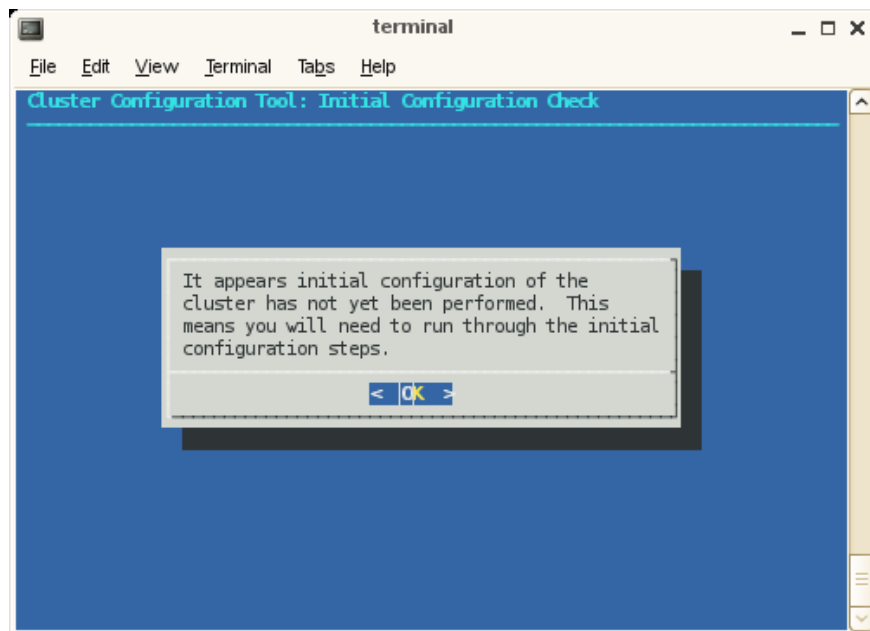

Figure 2-10 Cluster Configuration Tool: Initial Configuration Check Screen
2. The **Cluster Configuration Tool: Initial Configuration Check** screen appears, as shown in Figure 2-10 on page 46. This tool provides instructions on the steps you need to take to configure your cluster. Click **OK** to continue.